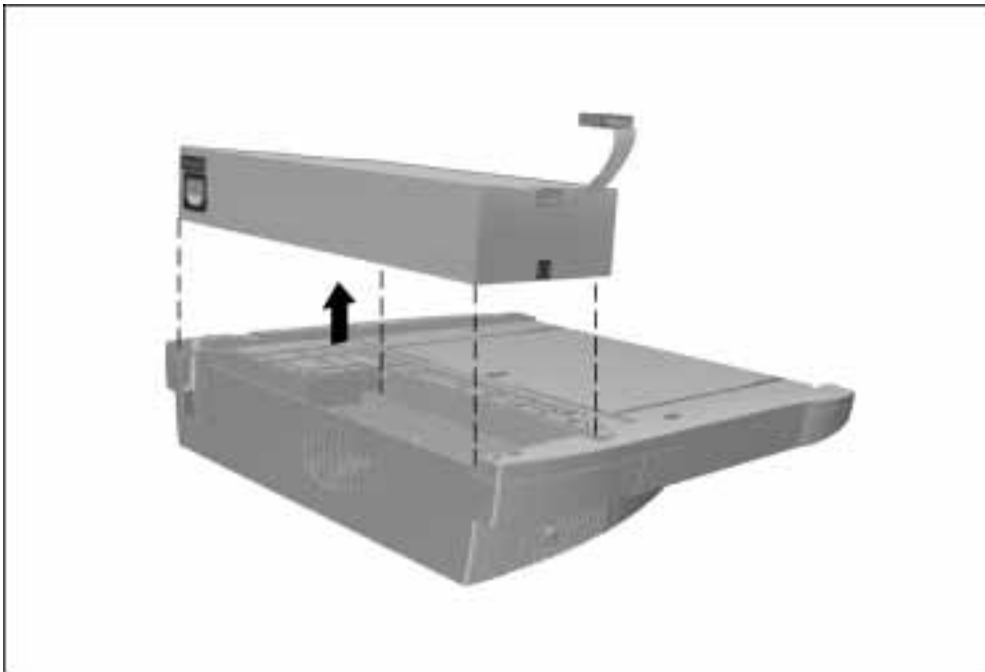

Figure 6-11. *Removing the Power Supply*
4. Lift the power supply out of the base assembly (Figure 6-11).